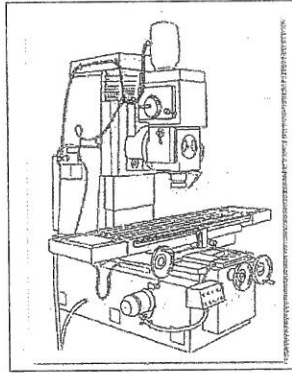

Figure Q3: Bed-type Milling Machine
- (a) Figure Q3 shows a bed-type milling machine. Explain briefly **THREE (3)** principal parts of the machine. (9 marks)